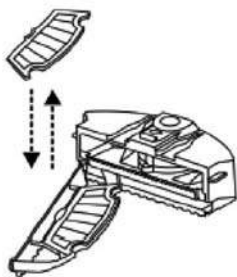

Figure 7
- 5) Change a new filter, press the semicircle bracket by one hand to release the fastener from the filter screen, and remove the filter grid by the other hand and then change a new one (Refer to Figure 7).